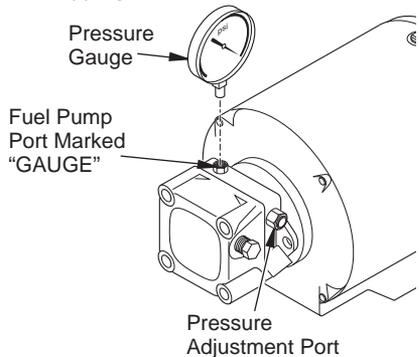

Figure 11 - Adjusting Pump Pressure
4. Adjust pressure. Use small flat blade screwdriver to turn slotted screw at fuel pump pressure adjusting port. Turn screw clockwise to increase pressure. Turn screw counterclockwise to decrease pressure. See specifications in Figure 11 for correct pressure for each model.
2. Install accessory pressure gauge (part number 110380-01) to fuel pump port marked "GAUGE" (see Figure 11). Do not use bleeder valve port to check the pressure. The bleeder valve port contains pressure higher than operating pressure. Setting pump pressure with gauge in the bleeder valve port results in wrong operating pressure.
4. Adjust pressure. Use small flat blade screwdriver to turn slotted screw at fuel pump port at top right side of pump. Turn screw clockwise to increase pressure. Turn screw counterclockwise to decrease pressure. See specifications in Figure 11 for correct pressure for each model.